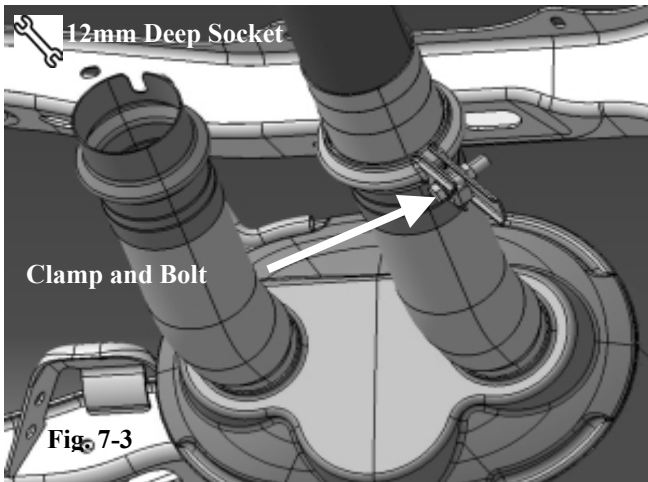

Fig. 7-3
- (d) Place clamp around flare and tighten bolt to  $24 \pm 5$  lb-ft ( $32 \pm 6$  N-m) of torque. (Fig. 7-3) (12mm socket)
**NOTE:** Be sure to keep clamp handle orientation as shown in Fig. 7-3.